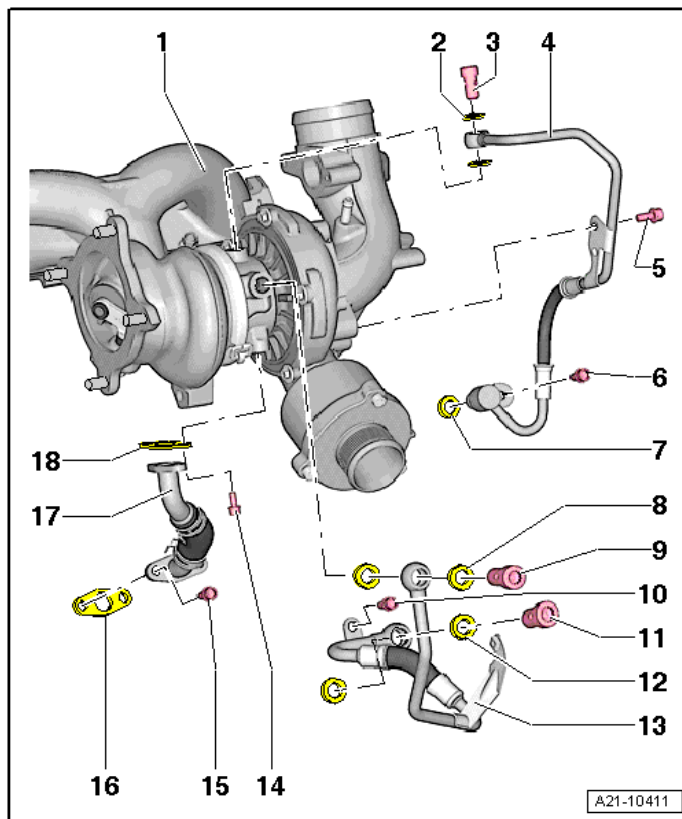

Figure 4. The seals (8, 12), bolts (9-11), and coolant supply line (13).
5. Remove coolant supply line (Figure 4, 13), including seals (Figure 4, points 8 and 12).
6. Replace coolant supply line (Figure 4, 13), including seals (Figure 4, points 8 and 12).
- Bolt (Figure 4, 9): 20 Nm + 45°.
- Bolt (Figure 4, 10): 9 Nm.
- Bolt (Figure 4, 11): 20 Nm + 45°.